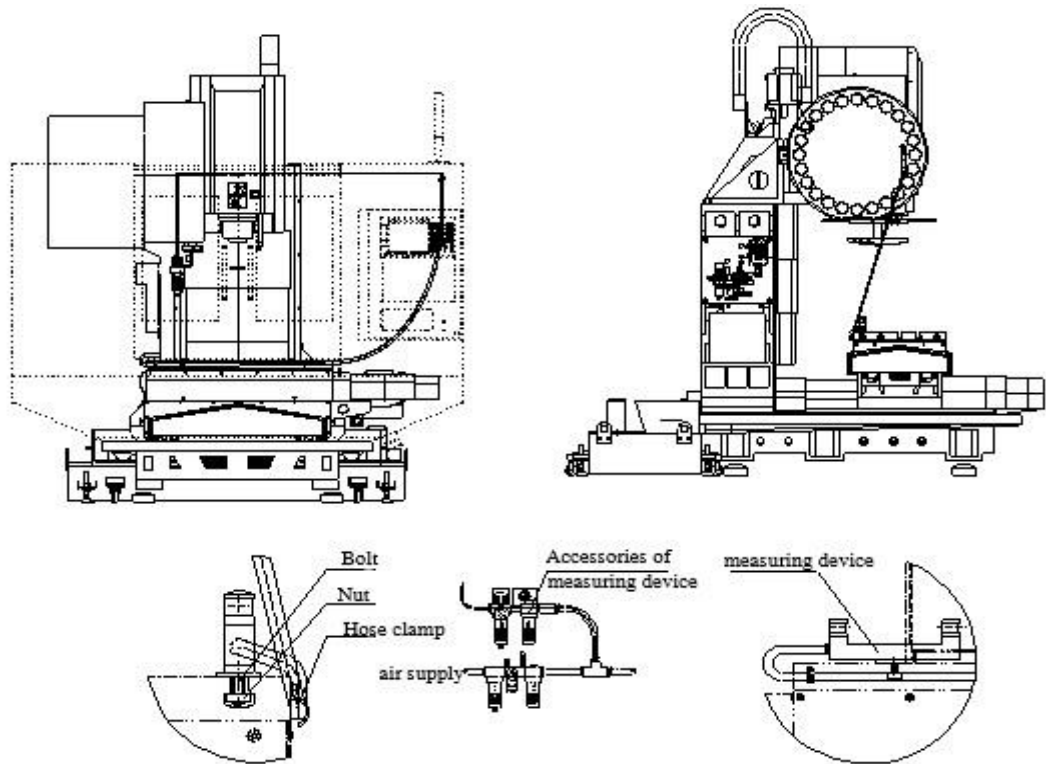

Fig. 3.15
- 1) Fix the tool measuring device at the rear of working table with bolts and nuts through T slot as Fig.3.15